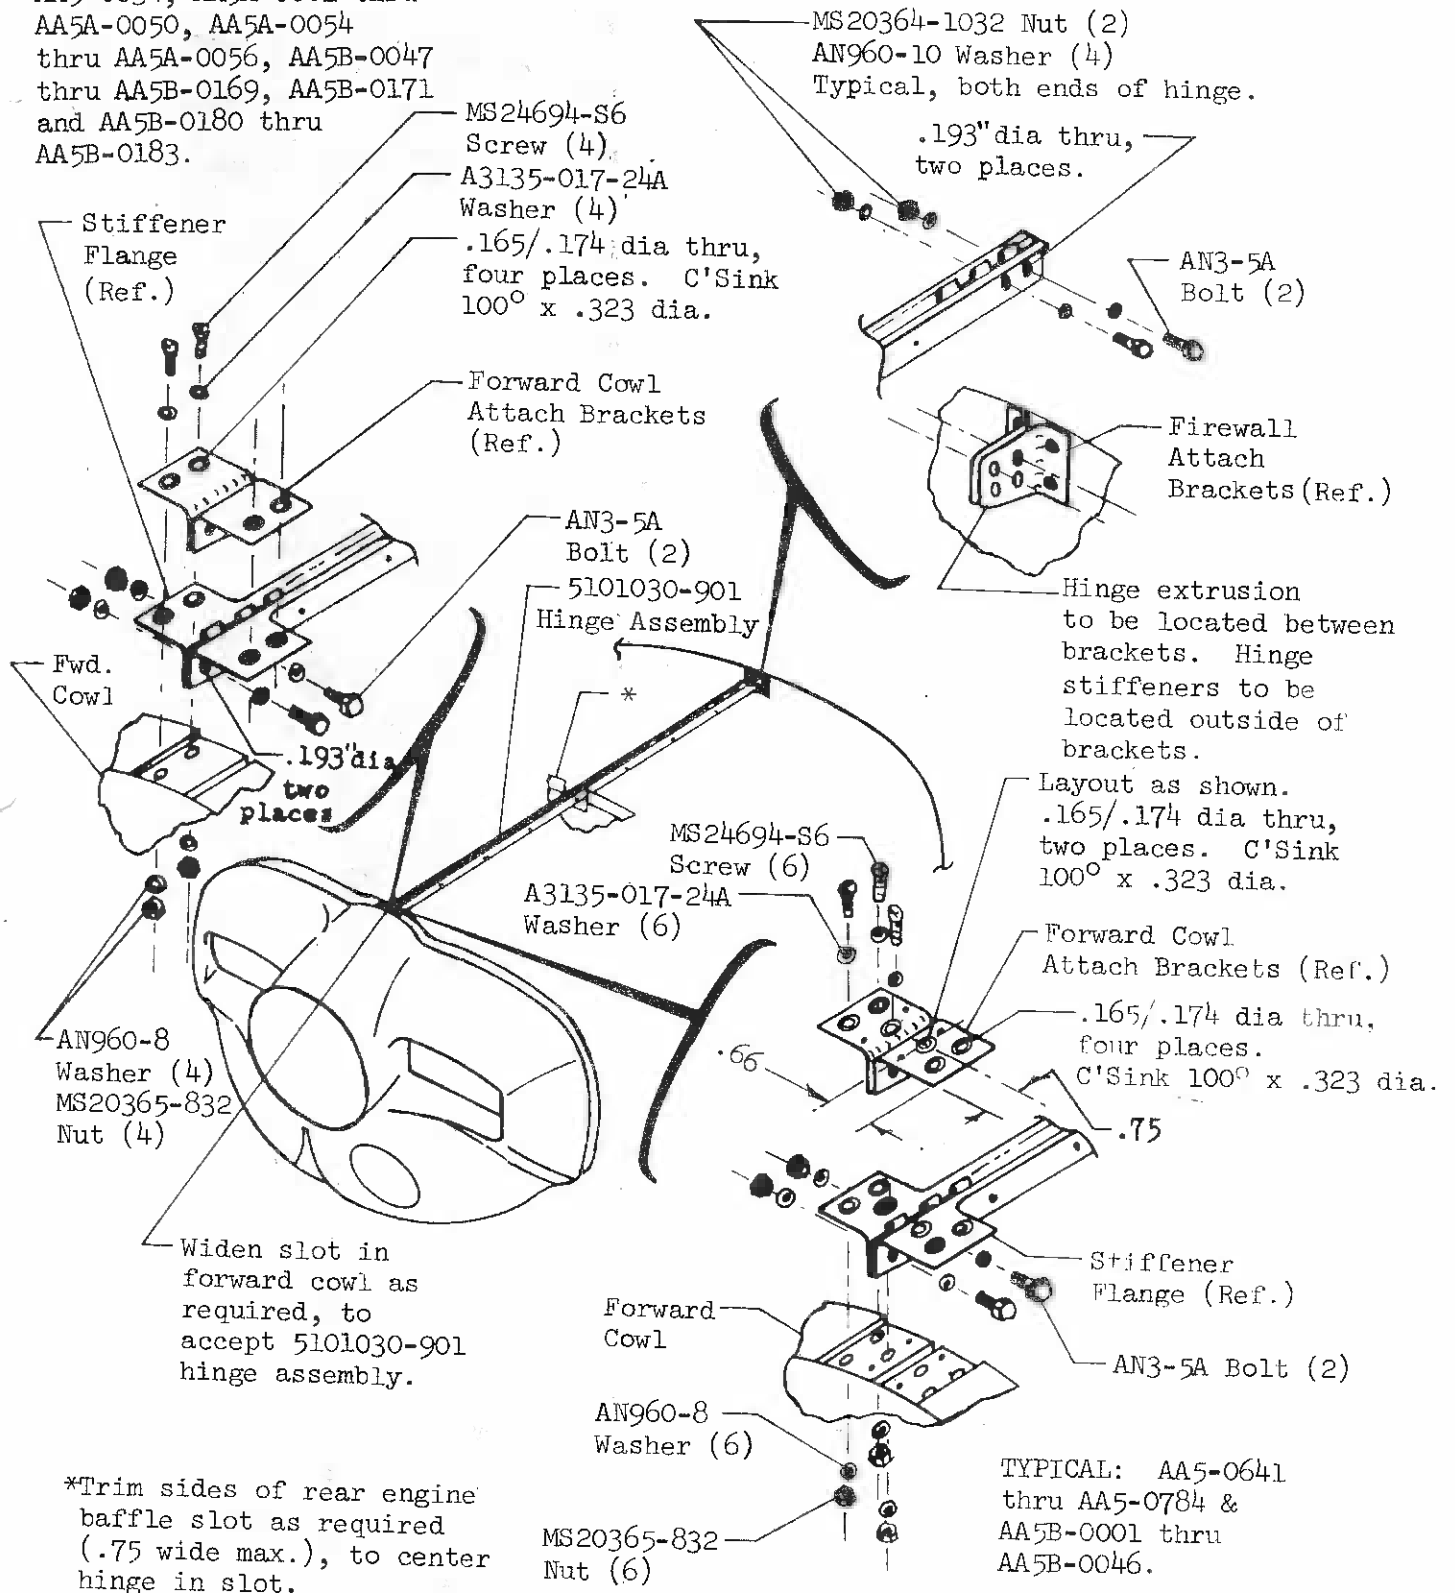

Figure 1. Upper Cowl Center Hinge Replacement
MODIFICATION (See Figure 1)
5. Temporarily attach the forward attach brackets to the hinge assembly with the stiffeners outside of the brackets, utilizing the hardware shown in Figure 1.
6. Temporarily attach the hinge assembly to the firewall attach brackets with the stiffeners outside of the brackets utilizing the hardware shown in Figure 1.
7. On AA5-0641 thru AA5-0784 and AA5B-0001 thru AA5B-0046, match drill the forward stiffener flanges of the new hinge assembly to the two (2) existing outboard rivet holes already drilled in each of the attach brackets and forward cowl. Locate a third hole .75" from the leading edge and .66" from the outboard edge in each forward cowl attach bracket. Drill all six (6) holes to .165/.174 inch dia and countersink to 100° x .323 inch dia.